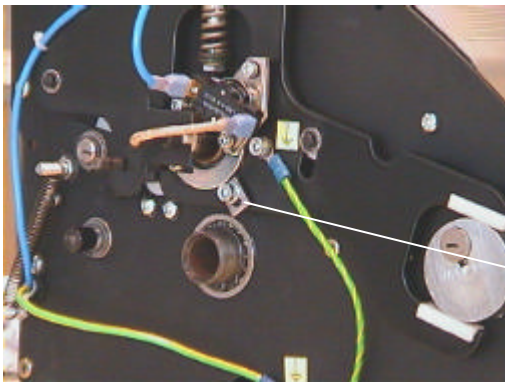

fig. 35
2. Next, the nip adjustment strips have to be loosened on either side of the machine (if not loosened already in case the previous procedure has been performed). See figure 35 and 36; the detailed adjustment strip is shown figure 37. Note that the strip must not touch the top roller bearing housing.